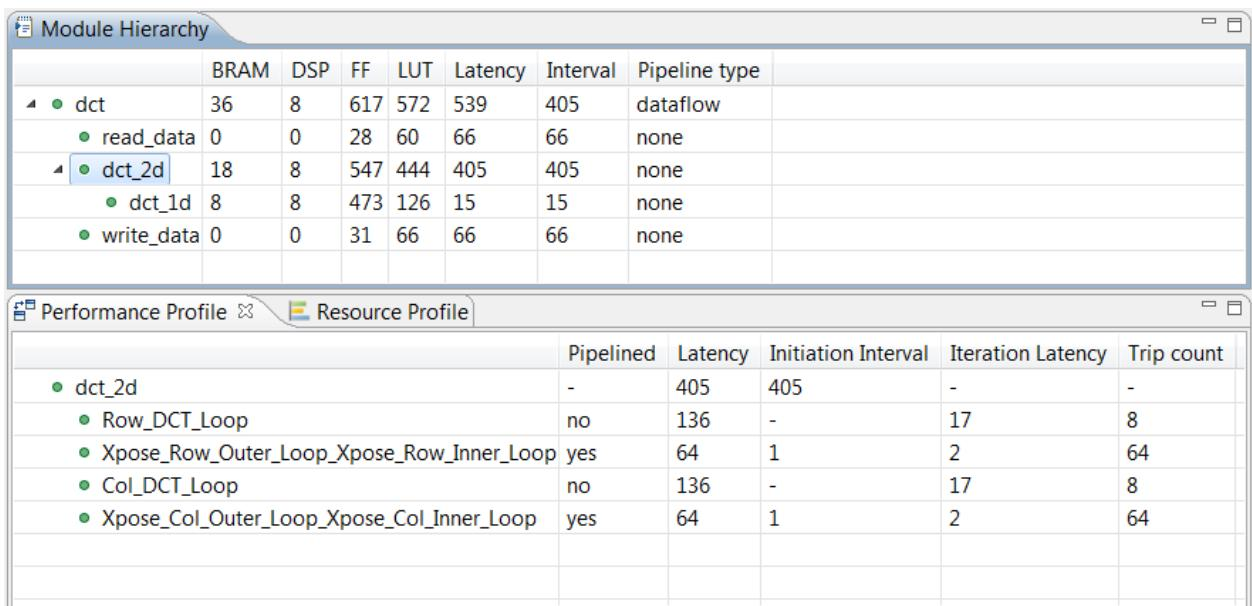

Figure 137 DCT Analysis View after Dataflow Optimization
9. In the Module Hierarchy, you can see dct_2d accounts for most of the interval. Ensure module dct_2d is selected to see the view in Figure 137.
Since the dct_2d block is selected in the Module Hierarchy, the Performance Profile shows the details for this block. Figure 137 shows the interval is the same as the latency, so none of these blocks are operating in parallel.